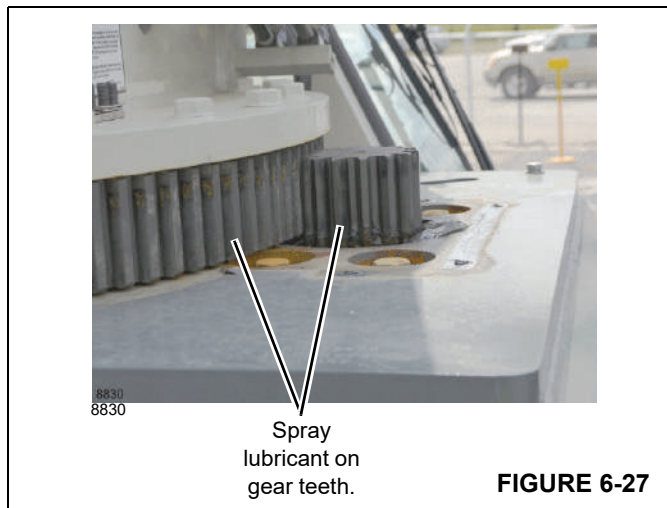

FIGURE 6-27
2. Remove the swing pinion guard (Figure 6-27).